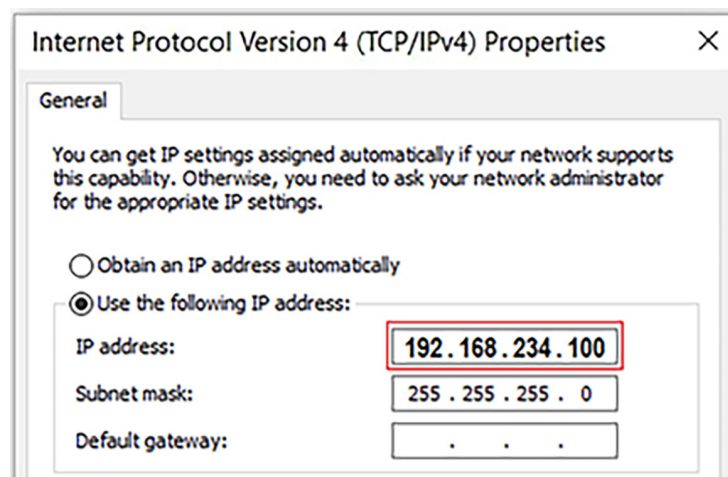

Figure 8.1: Properties of the USB device emulating an ethernet port
- 3) In the IPV4 Protocol properties, set the IP as static, within the same network (e.g.: **192.168.234.100**) as shown in Figure 8.1 on page 8-1.